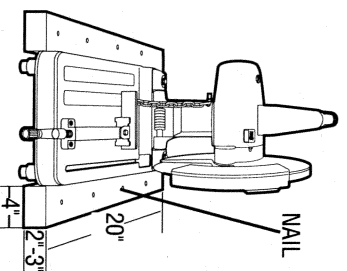

Figure 9
3. Place boards tightly along side, and nail to work surface. (Figure 9)